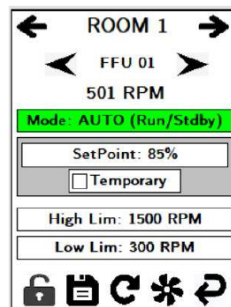

Fig. 7: Individual FFU Control
- From here you can change the mode, setpoint, high and low limits, see Fig. 7. Select the icon to  force polling.